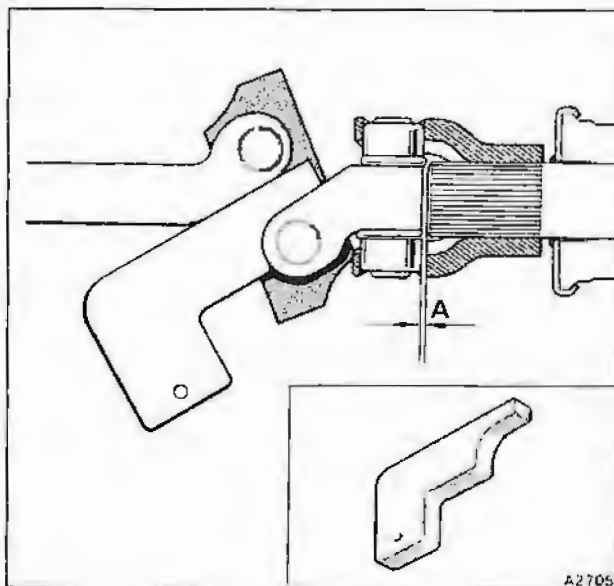

Fig. N5-7 Column to steering unit linkage (1989 model year cars fitted with 'one-piece' lower linkage)
- Insert tool RH 12122 between the two pivots as shown in figure N5-7.
- Check to ensure that a gap of at least 0,50 mm (0.020 in) exists between the top of the pinion input shaft and the lower pivot shaft (see fig. N5-7, A).